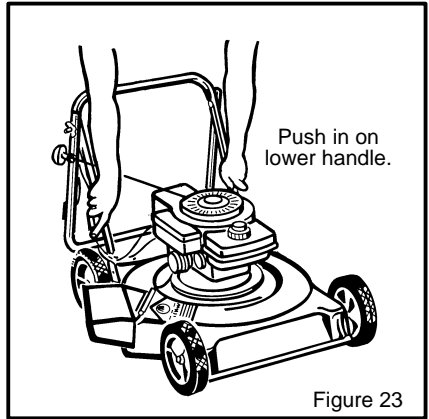

Figure 23
1. Loosen the knobs that hold the upper part of the handle to the lower part of the handle. As you fold the handle, make sure the cables are not around the loose fasteners and do not become damaged. Rotate the upper part of the handle toward the back of the unit (Figure 23) .